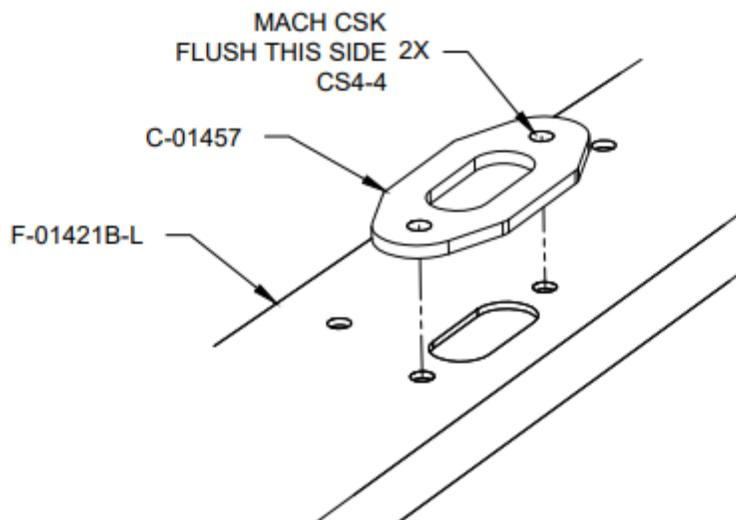

FIGURE 4: GUIDE PLATE INSTALLATION
Step 4: Install Guide Plate as shown in Figure 4.